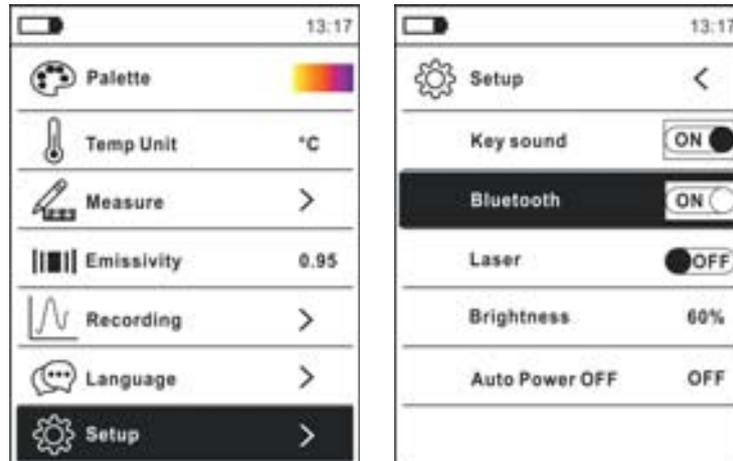

Fig. 47: Activation of Bluetooth connection
1. Press key /INRUSH, select menu "Setup" and activate the Bluetooth connection on the instrument (see § 4.3.10) as shown in Fig. 47